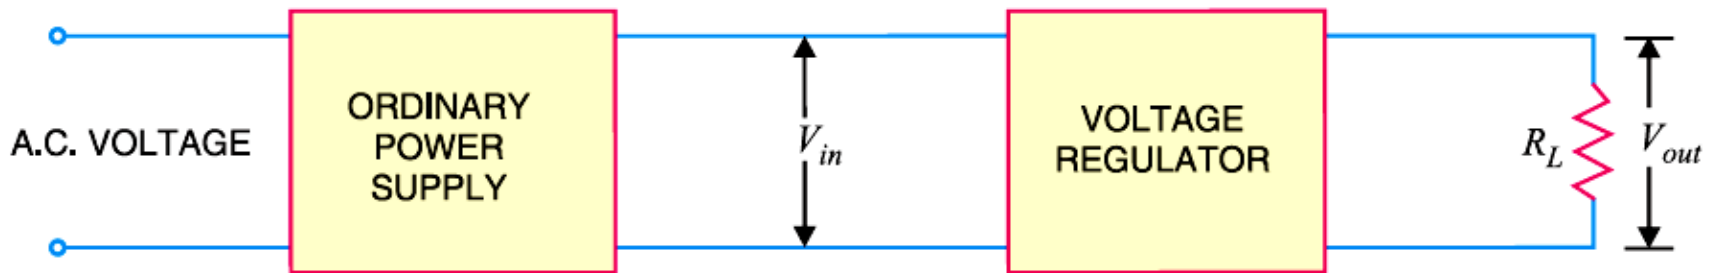

Fig. 4
- ❖ Fig. 4 shows the block diagram of a regulated power supply. It consists of an ordinary power supply and voltage regulating device.